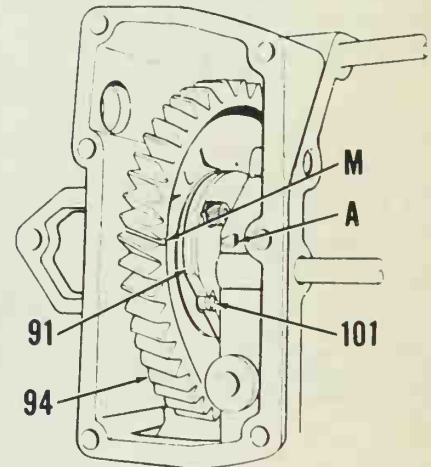
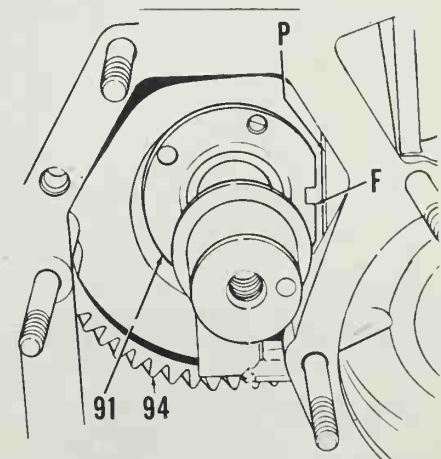

Fig. W2-20—Mate camshaft (91) with gear (94) as outlined in text.
Fig. W2-19—Turn camshaft (91) so flat (F) on flange will pass crankcase projection (P).
R&R AND OVERHAUL. To remove camshaft, refer to previous sections and remove cylinder heads and fuel injection pump. Remove push rods and push rod tubes. Extract and mark tappets so they can be returned to original bores. Refer to GOVERNOR section and remove governor linkage. Remove fuel transfer pump on models so equipped. Set aside shims (95-Fig. W2-18) for future use. Detach gear (94) from camshaft (91), then rotate camshaft so flat (F-Fig. W2-19) on camshaft flange coincides with crankcase projection (P). Carefully withdraw camshaft.
To install camshaft, rotate crankshaft so number 1 piston is at top dead center. Insert camshaft gear (94-Fig. W2-18) through control linkage opening in crankcase so dowel pin (101-Fig. W2-20) side of gear is towards end of crankcase. Insert camshaft through camshaft gear into crankcase while noting flat (F-Fig. W2-19) on camshaft flange which must coincide with crankcase projection (P). Engage camshaft gear with crankshaft gear so camshaft gear timing mark (M-Fig. W2-20) is aligned with crankcase timing arrow (A). Hold camshaft gear then rotate camshaft so camshaft flange notch engages camshaft gear pin (101). Install camshaft screws and recheck timing marks. Place original shims (95-Fig. W2-18) on camshaft and install governor linkage and gear cover. Tighten gear cover nuts to 24.5 N·m. Check camshaft end play which should be 0.15-0.25 mm. Install or remove shims (95) as needed to obtain desired end play. Complete reassembly by reversing removal procedure.